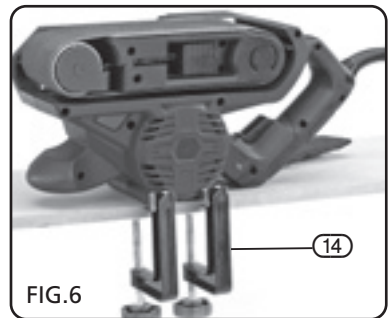

FIG.6
9.2 BENCH MOUNTED SANDING – FIG. 6
- Clamps (14) fit into holes (15) (see page 9) and once all inverted they clamp the belt sander safely in place.